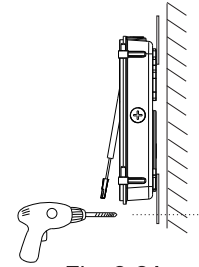

Fig. 2-2A
2. Rotate the three mounting kits to the proper angle. Put the fixture on the wall, make three marks according to the three mounting kits, then drill three holes for them. (Fig.2-2A)